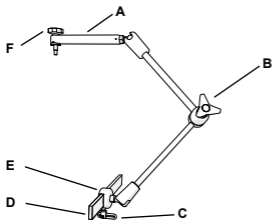

Figure 1: Field Generator Mounting Arm
Refer to Figure 1.
3. Open the mounting arm's central clamp (Figure 1, B).